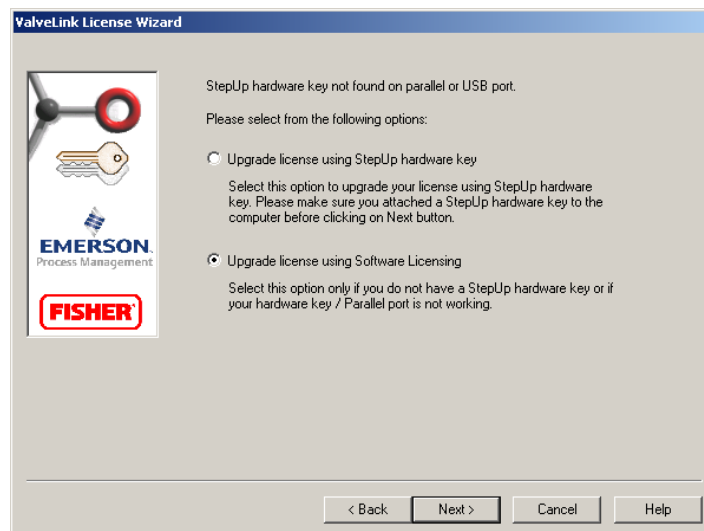

Figure 7-6. Upgrade Using Software Licensing
- Step 3:** Select the Upgrade License Using Software Licensing option button as shown in figure 7-6. Follow the License Wizard steps as directed.